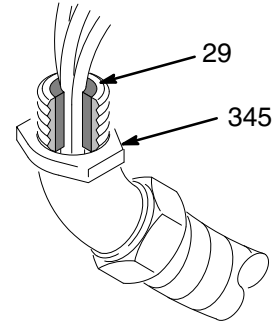

Fig. 26
15. Install the new motor (75).
16. Apply high-quality bearing grease to the gear (51) until the area contains a total of 4 ounces (112 grams) of grease. Be sure the balls (9) are in place.
17. Place the bronze-colored washer (67b) and then the silver-colored washer (67a) on the shaft which protrudes from the big gear in the drive housing (67).
18. Align the gears and push the drive housing (67) straight on to the front of the motor and the locating pins.
19. Continue to reassemble the sprayer. Rotate the conduit (1) as you feed wires through the conduit. Install the seal (29) around the wires in the elbow (345) of the pressure control. The seal keeps contaminants from entering the conduit and the motor. See Fig. 26.